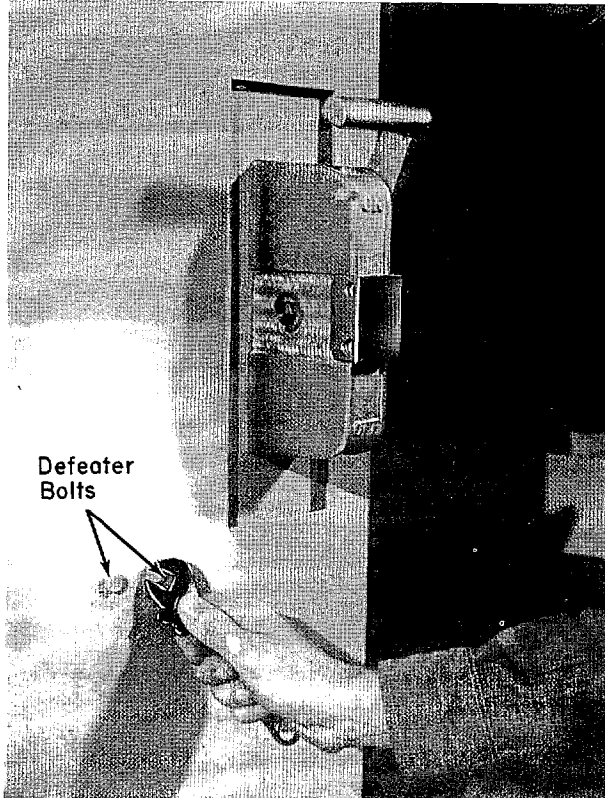

Fig. 85. Door interlock defeater bolts.
2. Remove the right-hand hex-head bolt, as shown in Fig. 85.